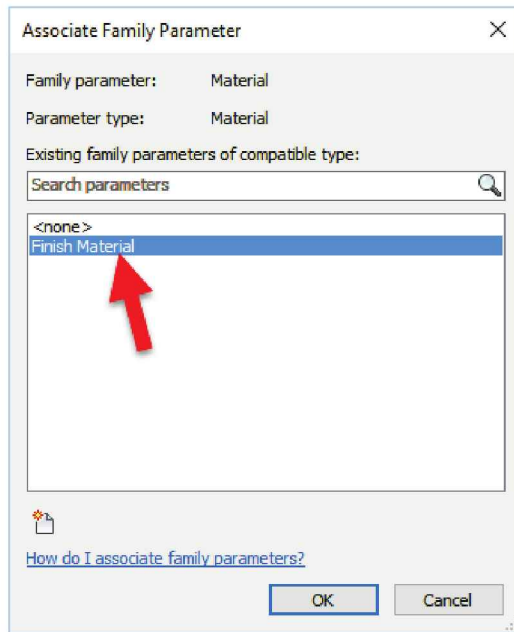

FIGURE 18-4.19 Mapping material to parameter
37. Select **Finish Material** from the list and then click **OK** (see Figure 18-4.19).